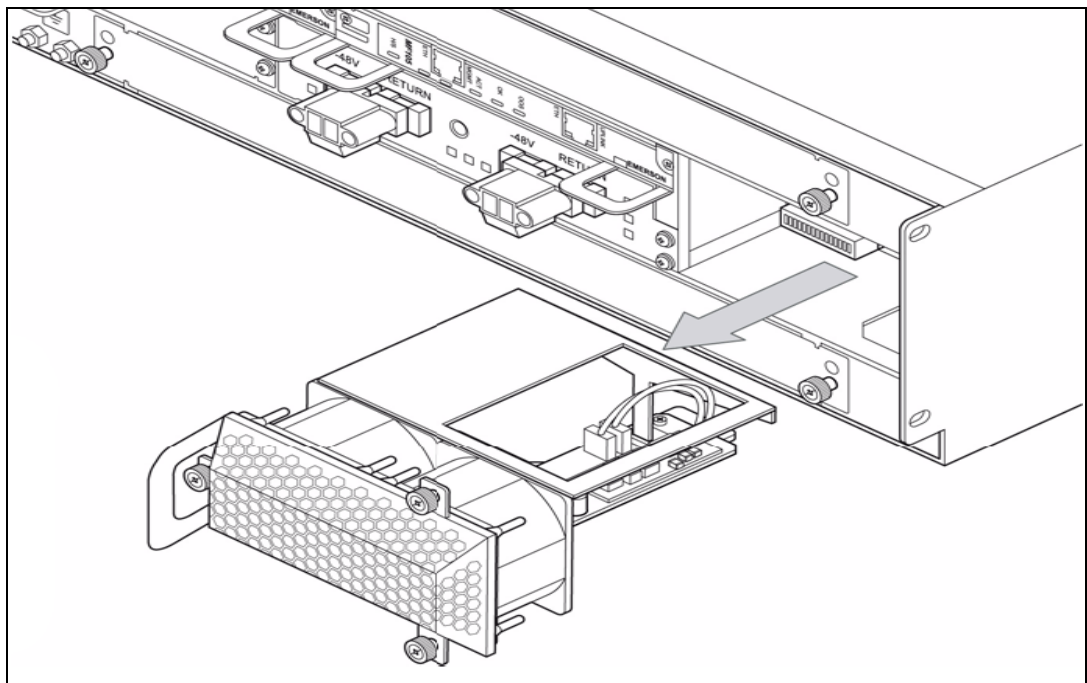

Figure C.6 - Pulling Out the Fan Tray (Rear)
4. Grasp the handle and pull the tray carefully out of the shelf (see **Figure C.6**).